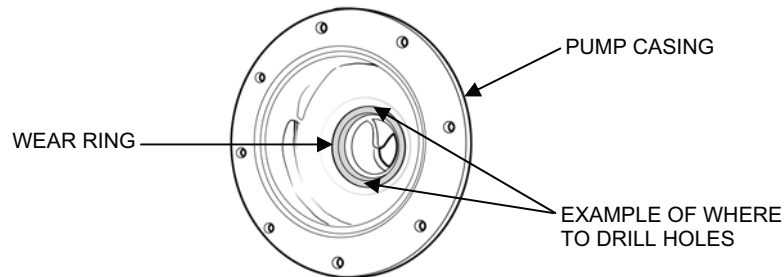

Figure 16. Wear Ring Removal.
- a. Drill a hole through the wear ring in two places opposite each other. Be careful not to damage the pump casing (see Figure 16).